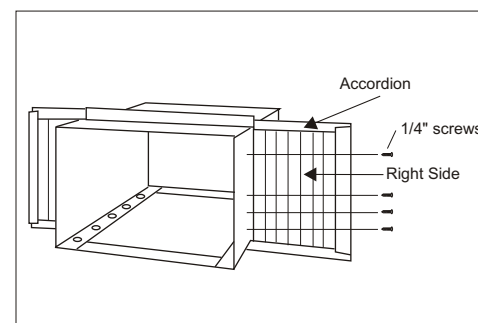

Fig. 4
Slide the accordions into the top and bottom channels as shown in (Fig. 4). The accordions are identified (on each frame) as "left" & "right". Attach the accordions to the cabinet using (4) 1/4" screws on each side.